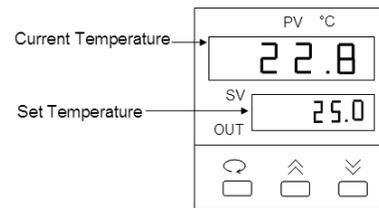

Fig. 1. Temperature Control Screen.
- The temperature control screen (see Fig. 1).
1. From the temperature control screen, use the arrow keys to adjust the Set Temperature to your desired target temperature in °C (Fig. 1)
Note: Following programming by default the controller displays the Step Temperature rather than the Set Temperature (see Fig 1. below). The step temperature is the next temperature value the system will reach as it heats/cool to reach set temperature. To display the Set Temperature press the  key.